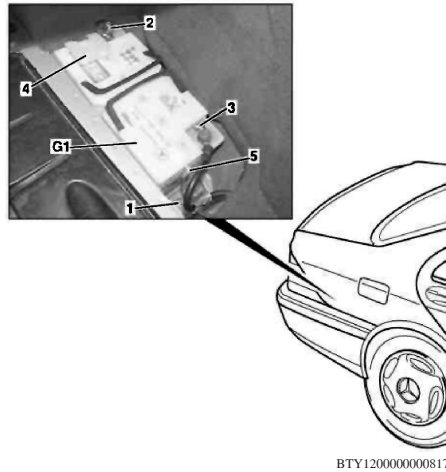
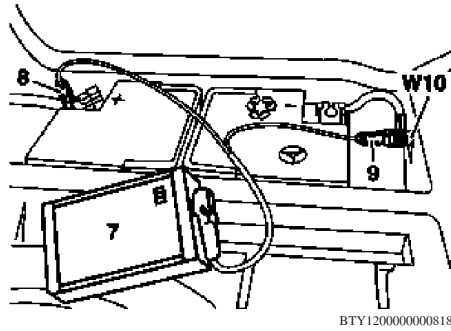

Fig. 1 Battery removal
Fig. 2 Quiescent current retention unit installation
3. Remove screw (1) and holder, **Fig. 1**.
- a. Switch on quiescent current retention unit (7), **Fig. 2**.
- b. Connect positive terminal (8) of quiescent current retention unit to positive cable of battery, **Fig. 2**.
- c. Connect ground terminal (9) of quiescent current retention unit to battery ground (W10), **Fig. 2**.
5. Disconnect ground terminal (3) at battery, and insulate ground terminal with insulation tape.
6. Remove gas vent line (5) from battery (G1), **Fig. 1**.
7. Remove positive pole cover (4) upward, **Fig. 1**.
8. Disconnect positive terminal clamp (2) from battery, **Fig. 1**.
2. Connect positive terminal clamp to battery. Connect positive lead (2) first, then ground lead (3), **Fig. 1**.
6. Install holder and screw (1), **Fig. 1**.